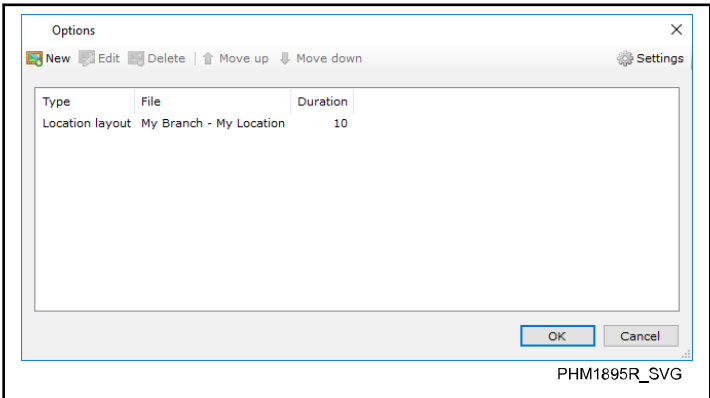
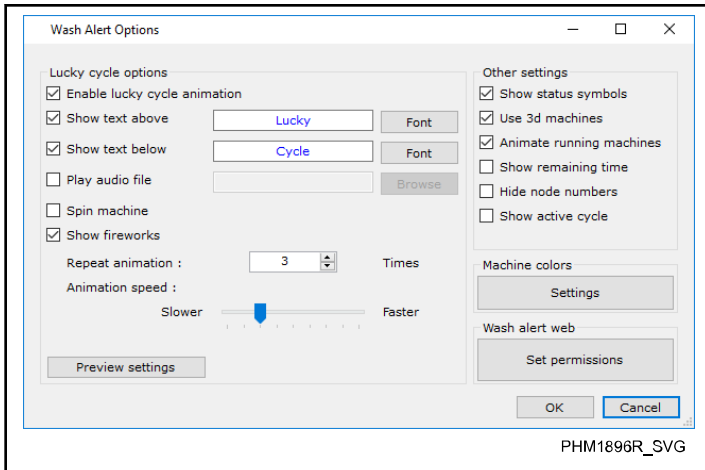

Figure 64
Figure 65
1. To configure the lucky cycle options, click the **Lucky Cycle** menu on the "Options" window. Refer to *Figure 64* . The "Lucky Cycle Options" window appears. Refer to *Figure 65* .